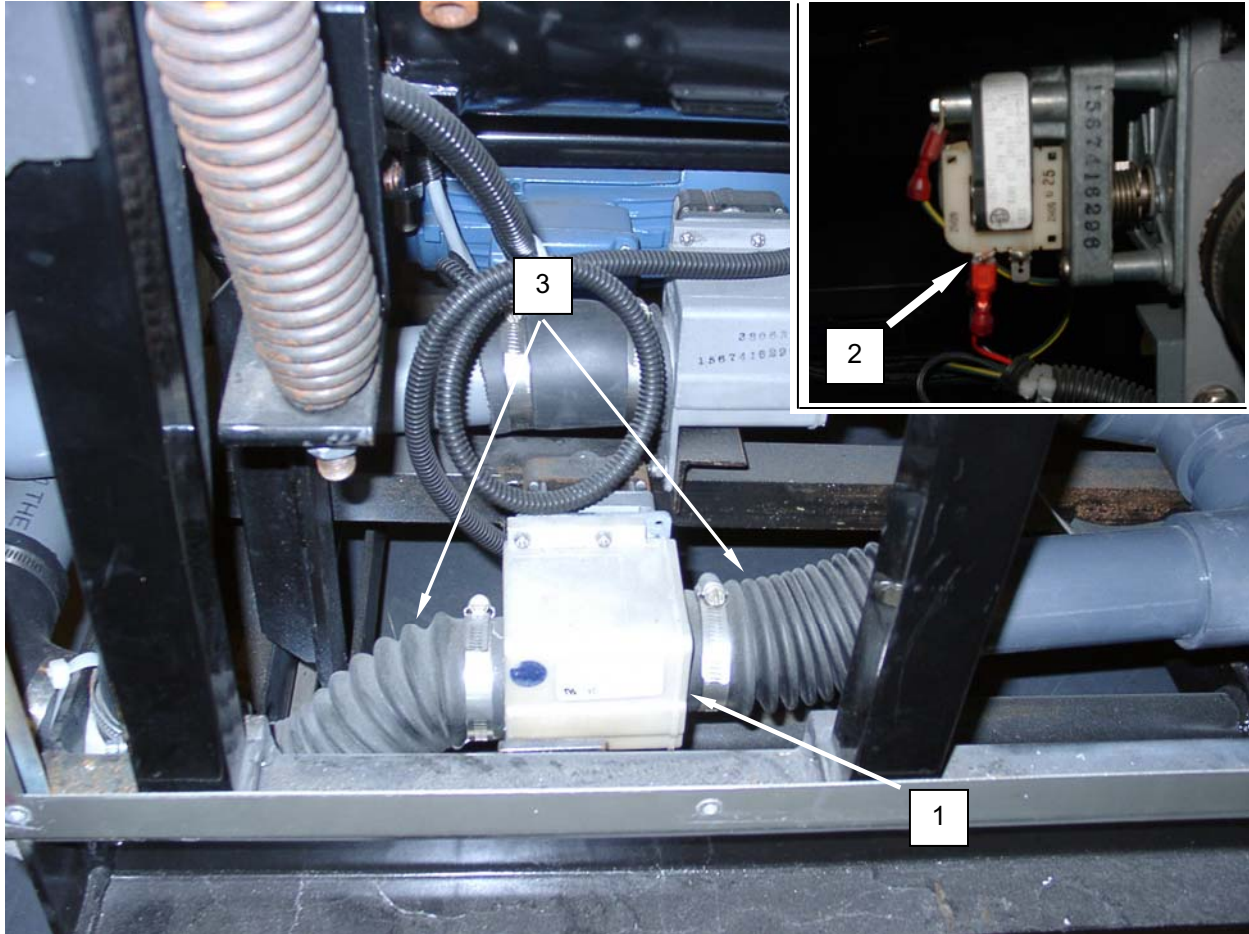

Figure 1. Test the Washer Main Drain Valve.
2. Tag and disconnect wiring from valve motor (**Figure 1, Item 1**).
3. Use an ohmmeter to check for 135 to 145 ohms resistance between motor leads (**Figure 1, Item 2**).
4. Use an ohmmeter to check for infinite resistance between each motor lead (**Figure 1, Item 2**) and ground.
5. Replace an open motor (**Figure 1, Item 1**) or a motor which has shorted to ground.
6. Loosen and remove the clamps retaining the hoses (**Figure 1, Item 3**) to the valve (**Figure 1, Item 1**) and remove the hoses.
7. Ensure the valve (**Figure 1, Item 1**) opens and closes completely and is free of obstructions.
9. Install hoses (**Figure 1, Item 3**) onto valve (**Figure 1, Item 1**) and retain with clamps.